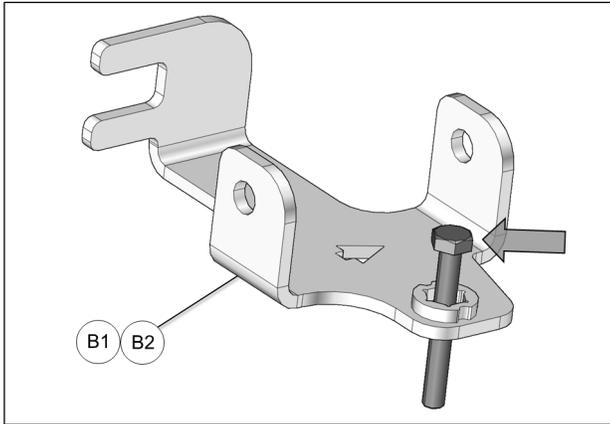

Fig. 4
4. Insert bolt in the rear anchor bracket (**B1-B2**) as shown in Fig. 4